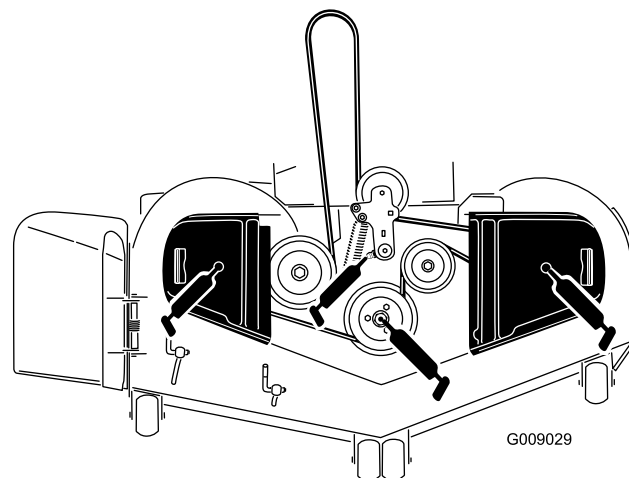

Figure 39
3. Grease the mower-deck idler-pulley pivot until grease come out the bottom (Figure 39).
4. Grease the 3 spindle bearings until grease comes out the lower seals (Figure 39).
- Grease the drive-belt idler arm (Figure 39).